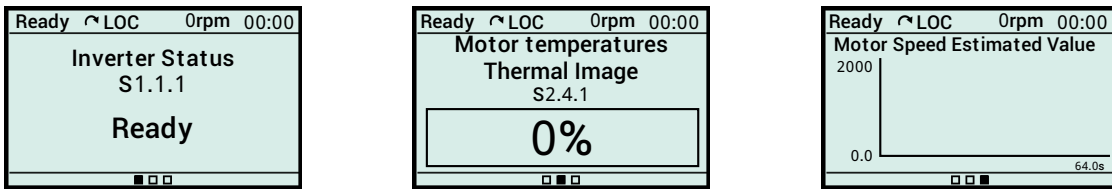

Figure 4.12: View in (a) text, (b) bar and (c) graphic
- **Full screen:** It covers an entire main screen and allows viewing reading variables in the format **text, bar or graphic**. Figure 4.12 shows an example with the three formats.